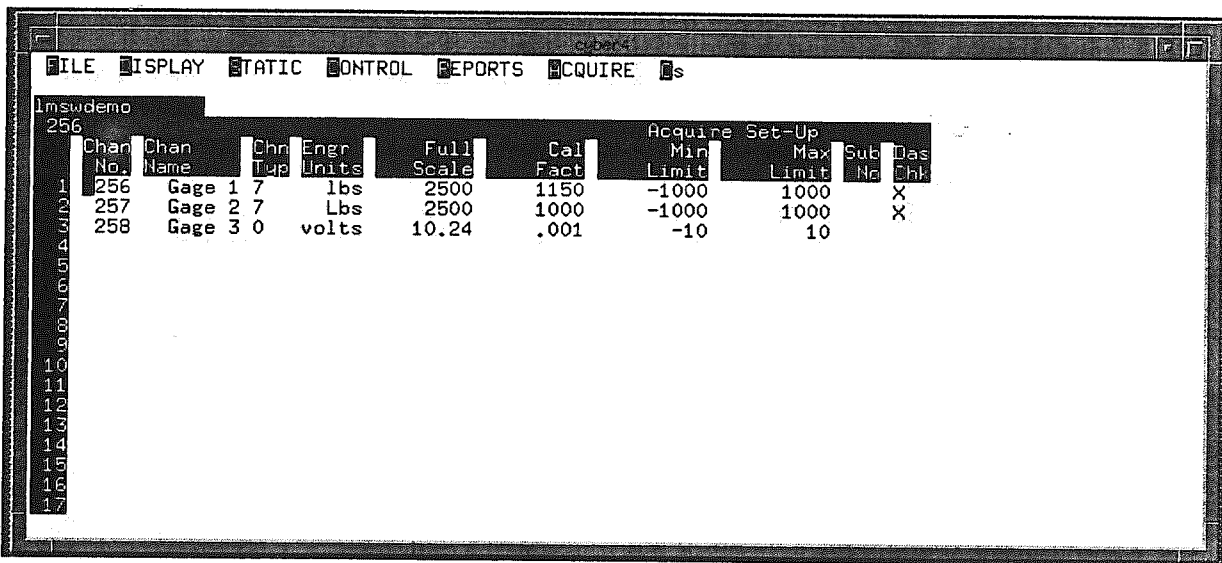

Figure 8-2 AuxDAS Setup Screen
Step 1: Select the ACQUIRE menu, Setup option. The AuxDAS Setup screen shown in Figure 8-2 is displayed.